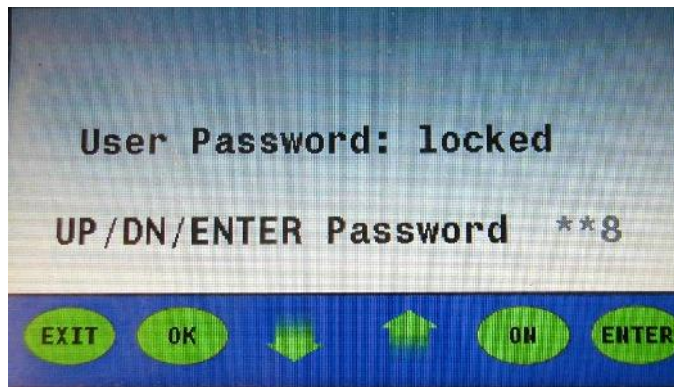

Figure 13
- Press “ENTER” and a (*) will be loaded into the second digit and the third digit “0” will start to blink **(Figure 13)**